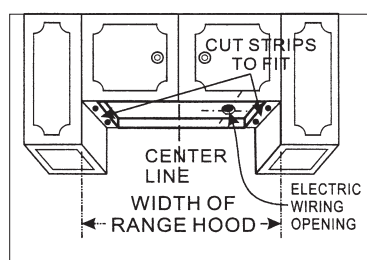

Fig.5
- a. Measure the space (under the cabinet between the inside front edge and inside back edge (Fig.5). With a saber saw, cut two 1"x2" wood filler strips (purchased locally) to fill in the bottom of the cabinet.